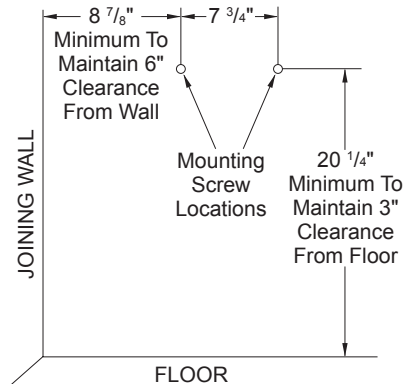

Figure 3 - Mounting Screw Locations
⚠ WARNING: Maintain minimum clearances shown in Figure 3. If you can, provide greater clearances from floor and joining wall.
2. Mark two mounting screw locations on wall (see Figure 3).